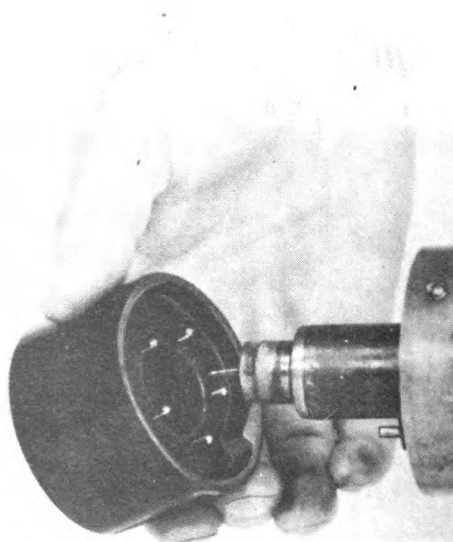

Fig 15. Placing ignition cylinder on gun. Care must be taken to avoid striking or pushing metal matches of cylinder.
- (2) Place ignition cylinder on end of barrel (Fig 15), being careful not to grasp cylinder by its ends.